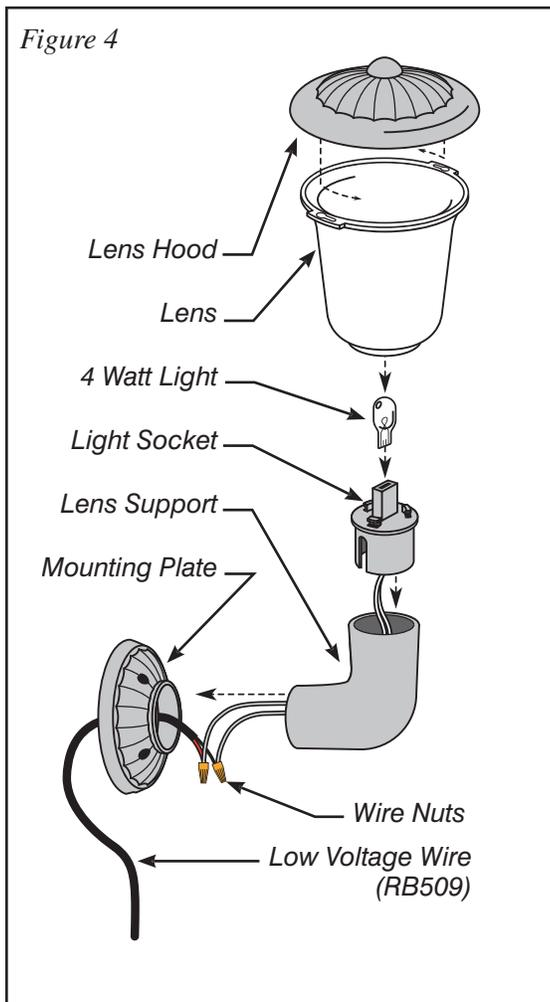

Figure 4
4. Assemble the rest of the light using the angled lens support as shown in *Figure 4*. Do not glue any of the parts at this time.